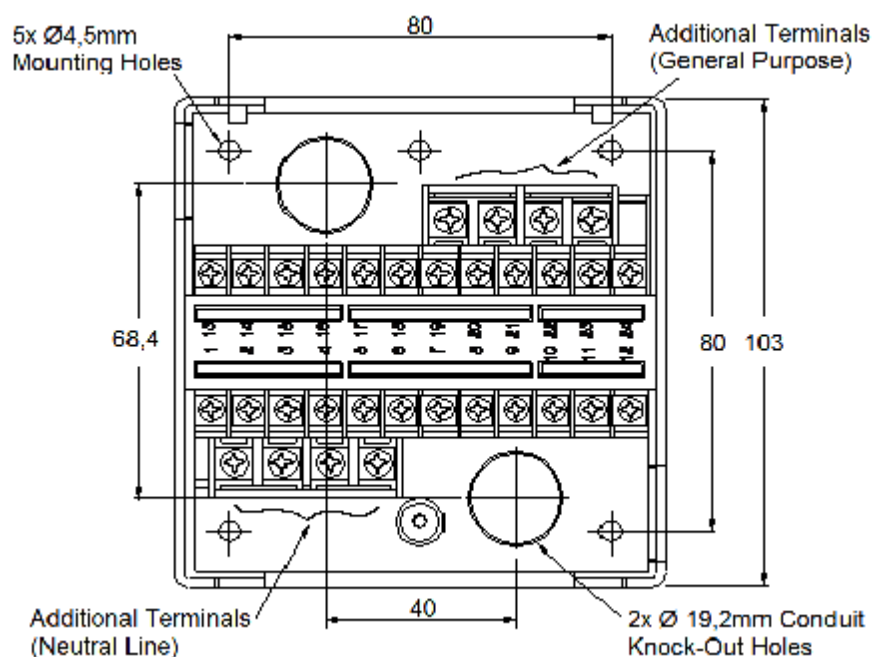

Fig. 2: Mounting dimensions of sub-base and terminal layout
1. Fig.2 shows the layout of the terminals on the subbase, and Figs.3-1 to 3-3 show examples of connections to external equipment. Regarding the wiring to the flame detector, refer to Fig.4.